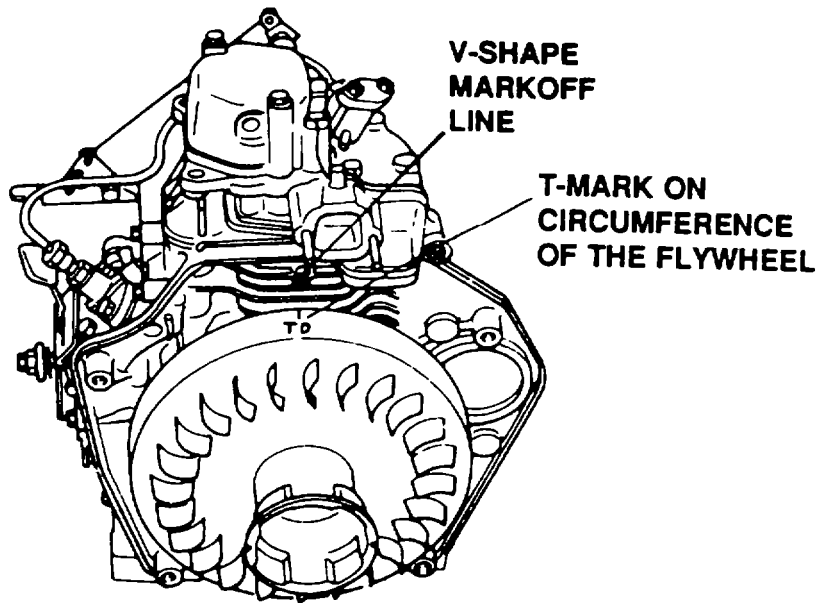

Figure 5-9. Alignment of Flywheel With Cylinder Block.
e. **Adjustment.** (Refer to Figure 5-9).